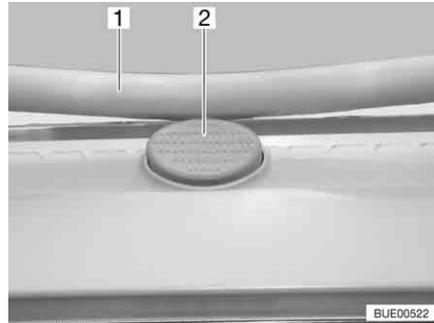

Fig. 18 Safety knob on the hinged skylight
- Press the safety knob (Fig. 18,2) and pull the bar (Fig. 18,1) down with both hands.
- Push the bar upwards with both hands until it is above the safety knob (Fig. 18,2).